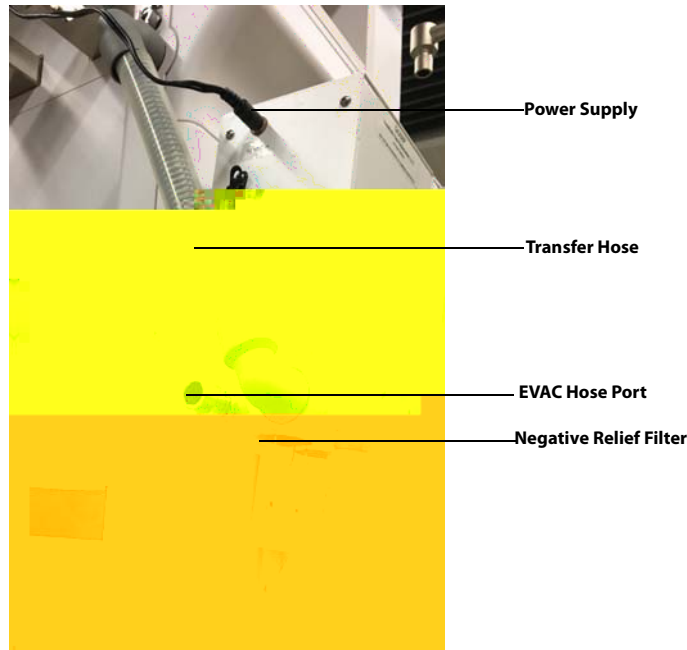

FIGURE 7-27 Transfer Hose Removal
1. Disconnect the power supply and the EVAC hose from the DGSS. (See FIGURE 7-27.)